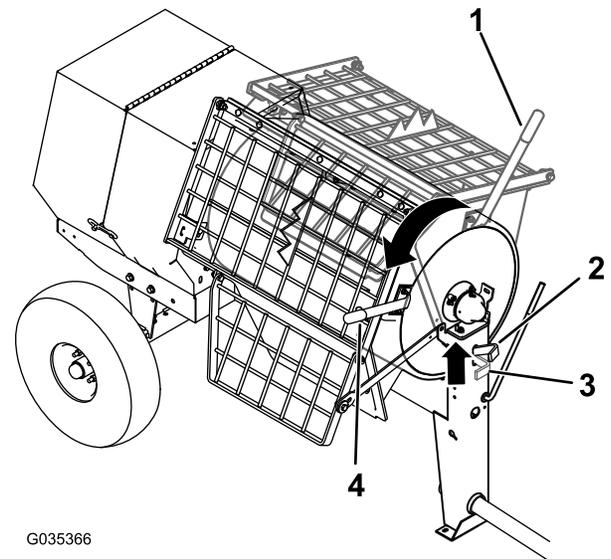

Figure 38
2. Grasp the dump handle with your left hand (Figure 38).
3. Lift the handle of the drum latch (Figure 38).
4. With both hands on the dump handle, rotate it counterclockwise to discharge the contents of the drum (Figure 38).
5. Rotate the dump handle **clockwise** until the drum latch locks the drum in the upright position (Figure 38).